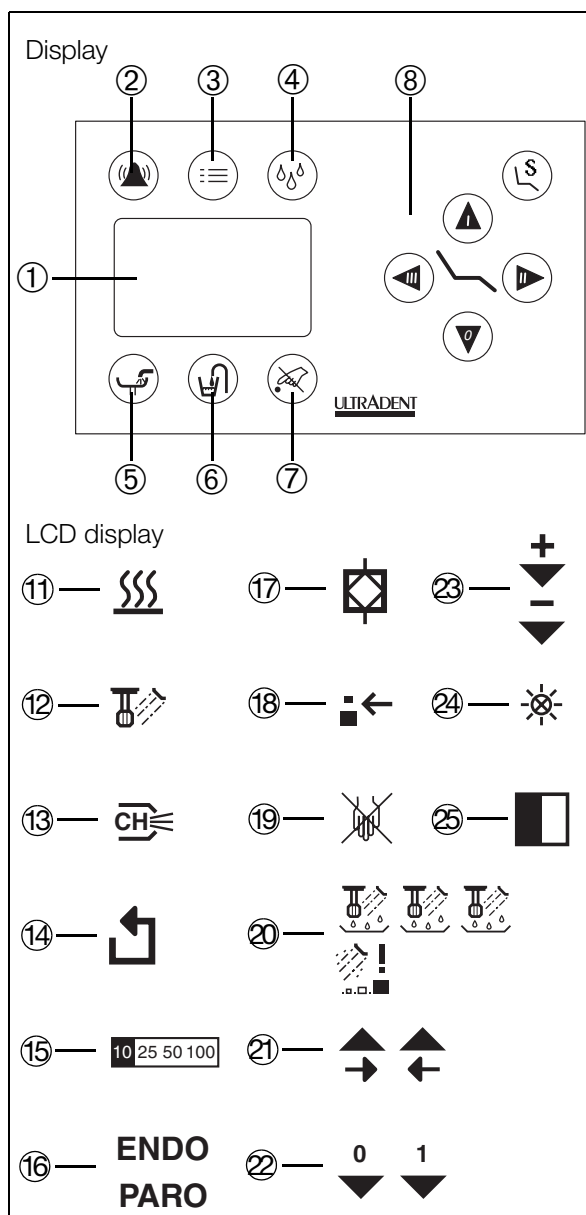

Fig. 68
- Ensure that the disinfection system is switched off as described below, and the display 19 (Fig. 68) above symbol 7 is not illuminated.
- Replace all the handsets in their holders and press the menu button 3 (Fig. 68) on the display. The submenu then appears.
- Keep tapping the touch key marked with a right arrow 21 (Fig. 68) until the symbol 17 (Fig. 68) appears. If a "1" appears beneath the symbol 17 (Fig. 68) tap the touch key beneath the down arrow briefly until a "0" appears. The disinfection system is now switched off.